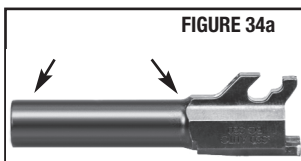

FIGURE 34a
- A single drop of firearm oil should be applied (FIGURES 34a and 34b). This will ensure proper lubrication. Care should be taken not to over-lubricate. Excess lubricant can collect quantities of powder residue, which could interfere with proper functioning of the pistol.